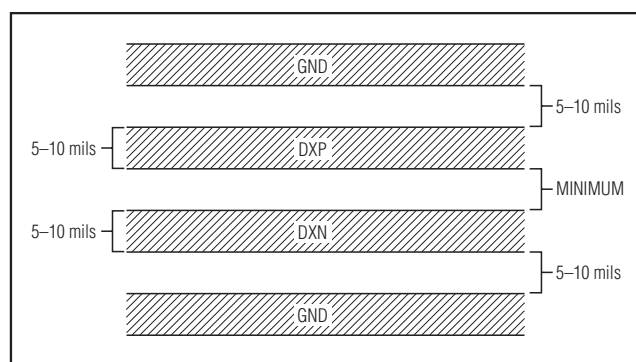

Figure 5. Recommended DXP-DXN PCB Traces. The two outer guard traces are recommended if high-voltage traces near the DXN and DXP traces.
- 3) Route the DXP and DXN traces in parallel and in close proximity to each other. Each parallel pair of traces should go to a remote diode. Route these traces away from any higher voltage traces, such as +12VDC. Leakage currents from PCB contamination must be dealt with carefully since a 20M $\Omega$  leakage path from DXP to ground causes about +1°C error. If high-voltage traces are unavoidable, connect guard traces to GND on either side of the DXP-DXN traces (Figure 5).